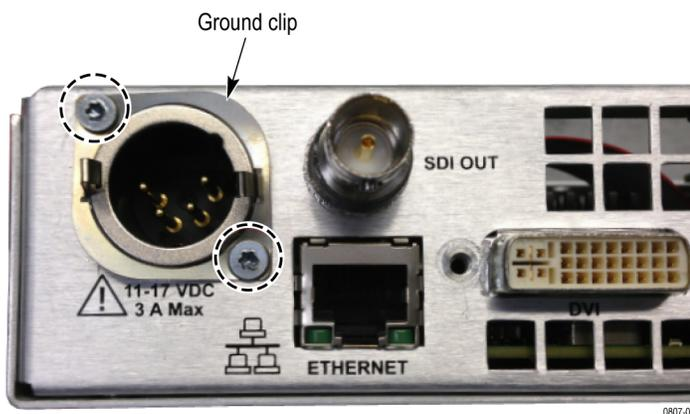

Figure 3: XLR connector ground clip
2. Turn the instrument right side up. Remove the two flat-head 40 X 0.375 T8 screws that attach the ground clip and the XLR connector to the rear panel. When reinstalling, install the ground clip as shown. (See Figure 3.) Tighten the screws to 5.5 in/lb.